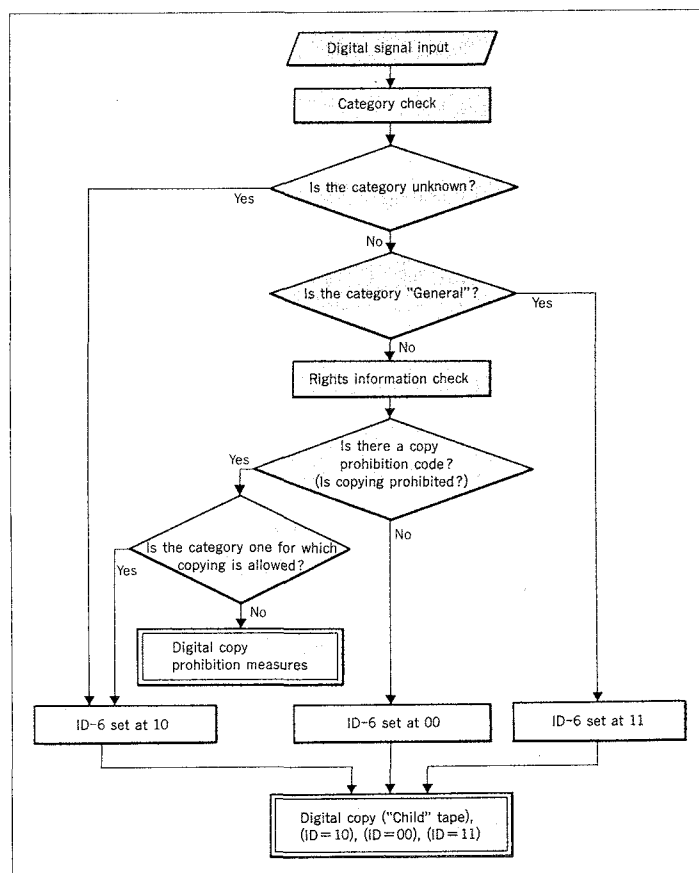

Fig. 11: Digital copying with an SCMS-accommodating DAT
- The SCMS-accommodating DAT has not only the conventional copy permission (ID-6=00) and copy prohibition (ID-6=10) codes, but also a mode in which copying one time only is possible (ID-6=11). The system judges whether or not digital copying is possible as shown in Fig. 11.
**Q17.** What is the "General" category listed in Table 3 and Fig. 11?